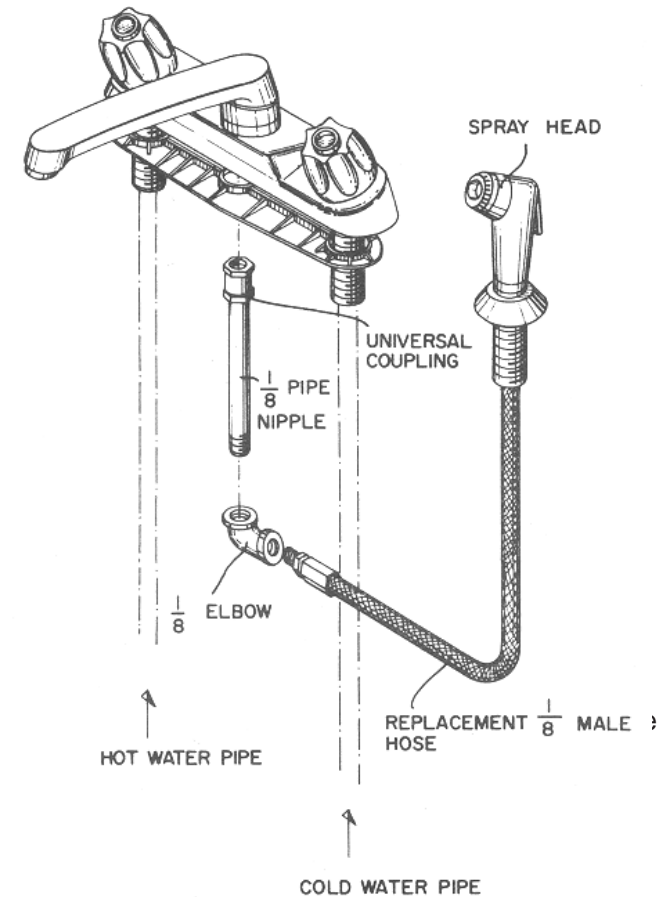

Figure 94.
1. Examine the connection of the worn hose beneath the sink valves. If the connection is not as it appears in Figure 94, chances are the hose is broken just below the connecting point because of excess tension placed on it during normal operation.
2. With adjustable wrench, unscrew male end of old hose from valve body or fitting beneath counter top in a counterclockwise direction. If the fittings are the same as in Figure 94, do not disturb them. Disregard nipple and elbow in Ingredients list and proceed directly to step 8.
5. Screw all fittings together, as shown in Figure 94, including elbow at bottom of nipple.